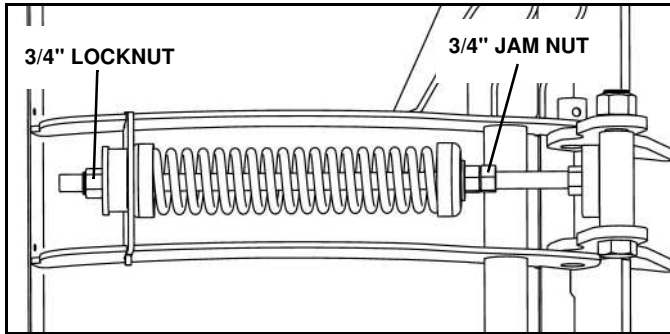

Figure 1-12
15. Tighten the 3/4" jam nut against the adjustment nut to secure the 14" spring cup spacing. (See Figure 1-12)